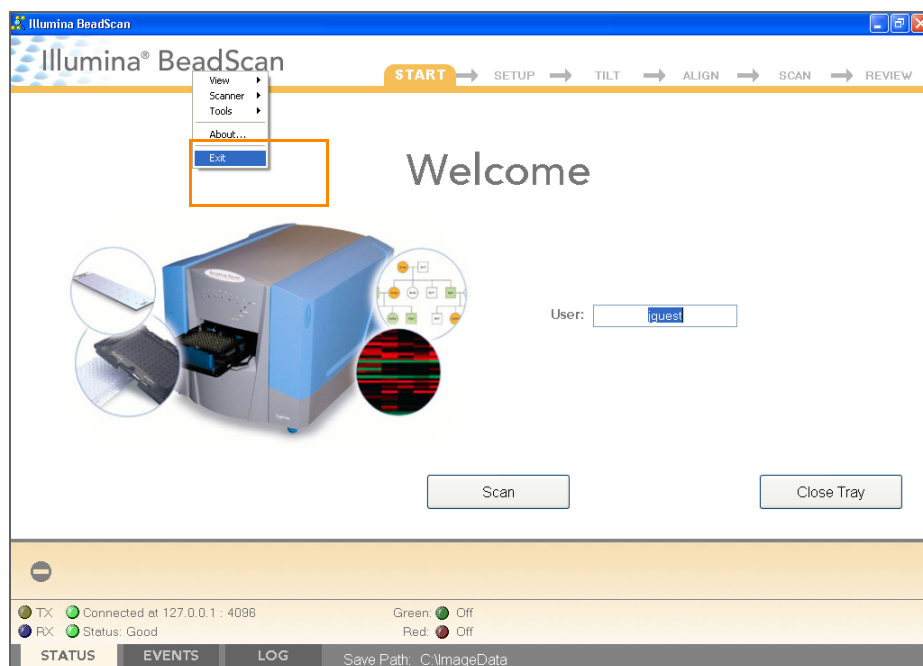

Figure 88 Exit the BeadArray Reader Software
- d. Shut down the BeadArray Reader BeadScan software. To exit, right-click near the Illumina logo and click **Exit** (Figure 88).